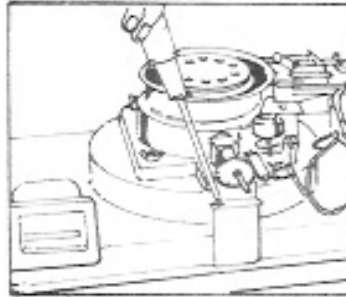

Fig. 16
- (2) Take off the guard, remove set screws and extract the tank unit from casing (Fig. 16).